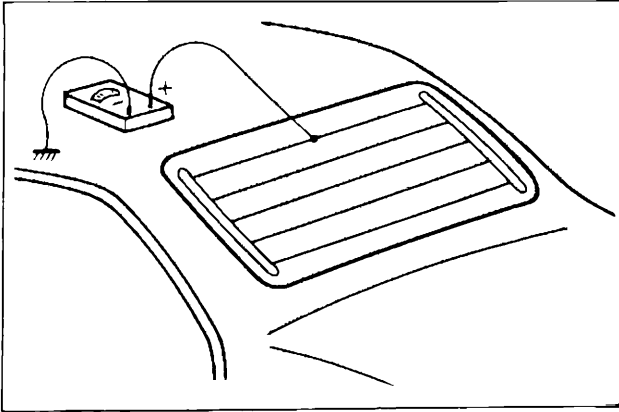

Fig. BE-45 Checking for broken heat wire with d-c voltmeter
(2) Method 2 — Start the engine and turn on the window defroster system. With a d-c voltmeter setup shown in Figure BE-45, check each heat wire for discontinuity. If the meter indicates 12 volts or 0 on a specific wire, that line is broken. (Normal indication. 6 volts)